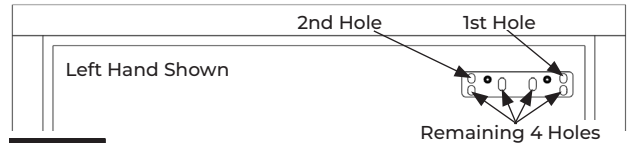

Figure 10 Push Application
5. Insert the second screw and attach mounting plate. Do not tighten fully. (Figure 9 & Figure 10)
6. Using mounting plate as a guide, drill and install the two (2) outer sleeve nuts or Rivet Nuts.
- NOTE:** The two (2) center screws are optional.